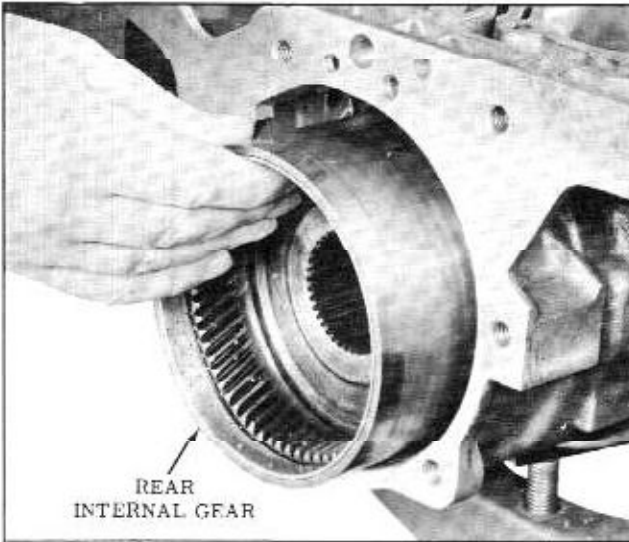

Fig. 3-51 Removing Rear Internal Gear
49. Remove the rear internal gear. (Fig. 3-51)